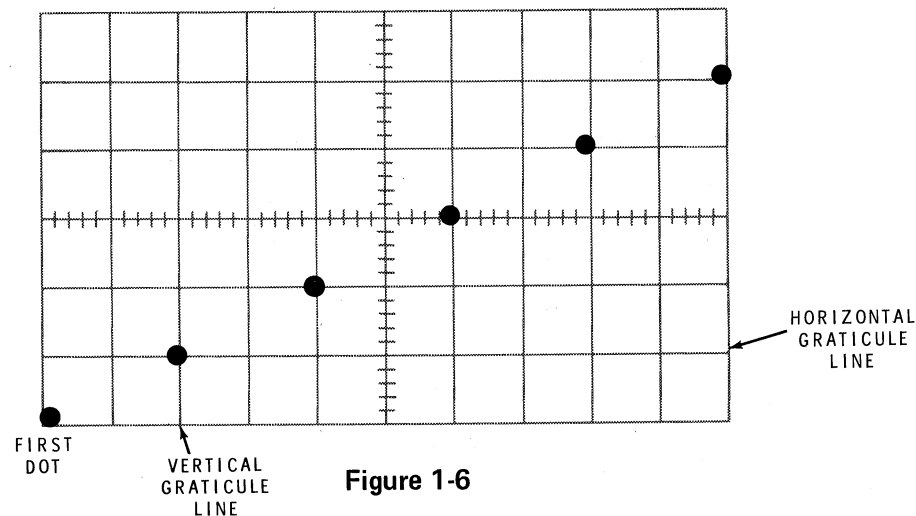

Figure 1-6
- () Turn on the Curve Tracer (until the SWEEP VOLTAGE control just clicks) and slowly turn the STEPS/FAMILY control clockwise until four to six dots appear in a diagonal row and fill the oscilloscope screen, as shown. See Figure 1-6. NOTE: Adjust the HORIZONTAL and VERTICAL SENSITIVITY controls on the oscilloscope if the dots are too widely spaced.